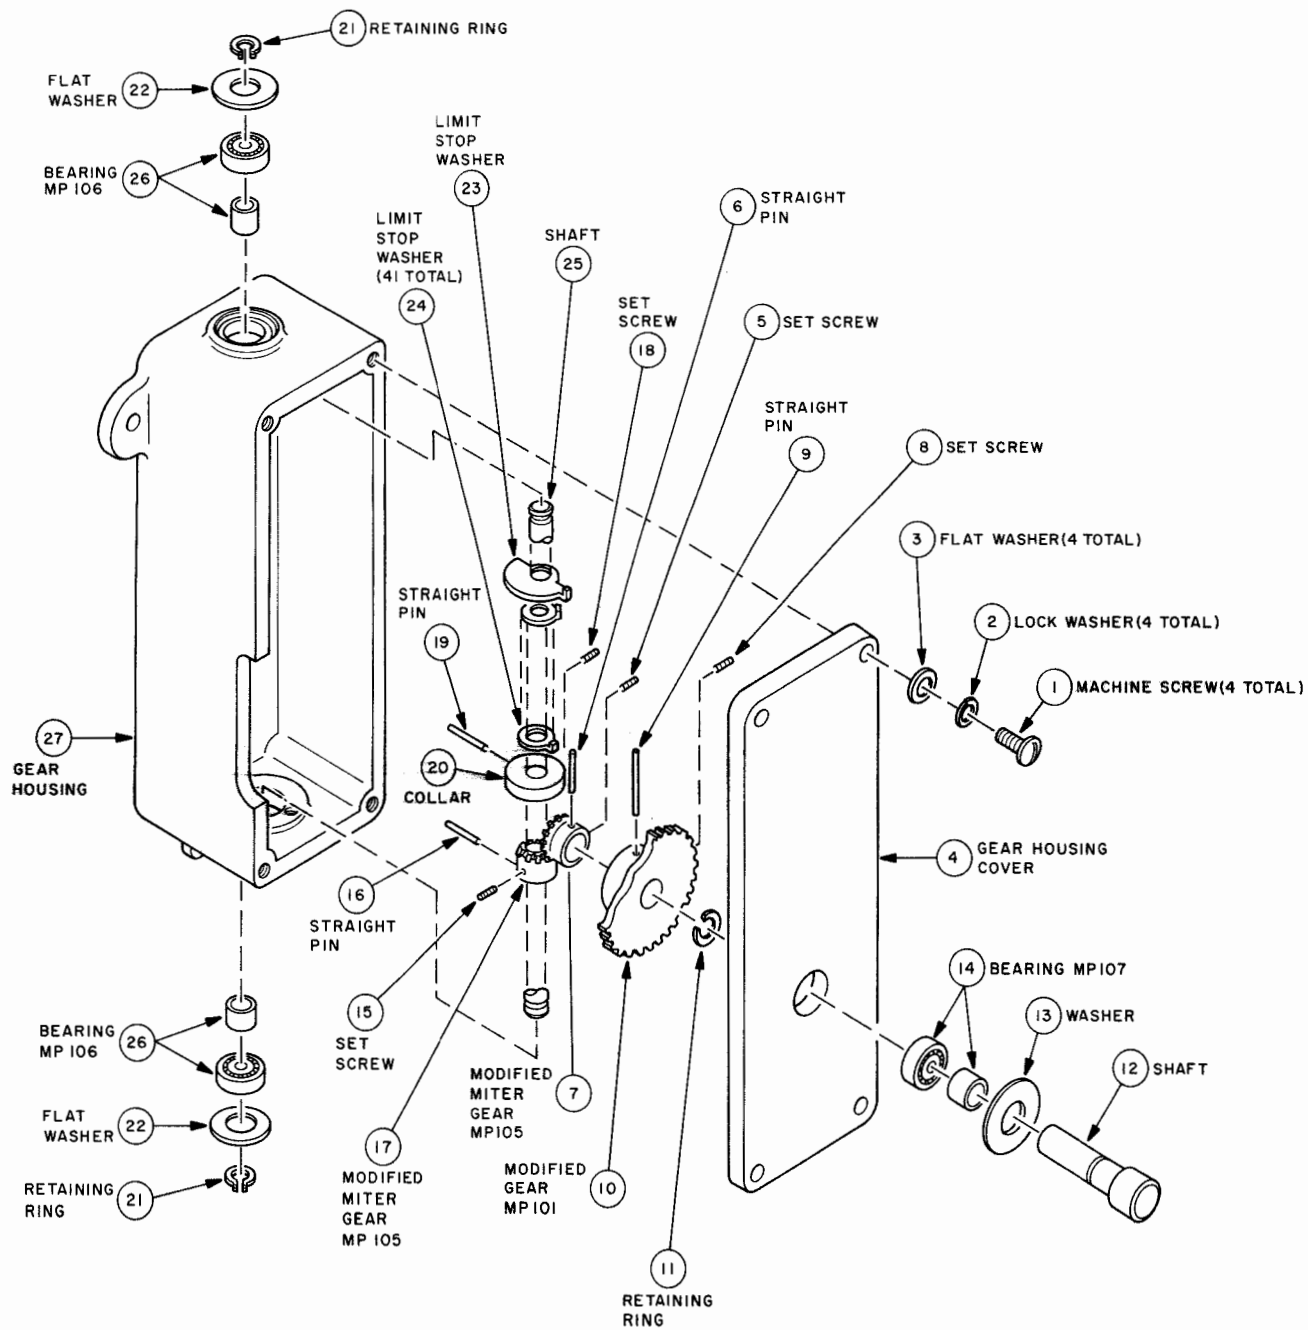

Figure 6-10. SERIES CAPACITOR Gear Train, Location of Parts
(4) GEAR TRAIN ASSEMBLY. - If a gear train assembly is defective, remove and disassemble the gear train assemblies according to the following steps (see figures 6-10 and 6-11).
Step 4. Remove the four screws (1), lock washers (2), and flat washers (3).
Step 5. Remove gear housing cover (4).
Step 6. Remove setscrew (5) and straight pin (6) from miter gear (7). Remove miter gear.
Step 7. Remove setscrew (8) and straight pin (9) from gear (10). Remove gear.